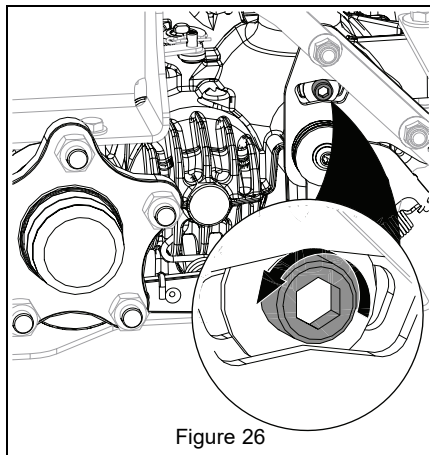

Figure 26
1. Loosen the return-to-neutral screw on the transaxle. See Figure 26.